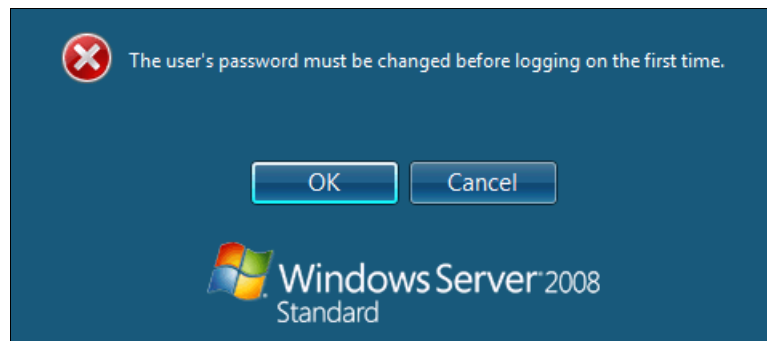

Figure 9-101 Password prompt after installing Windows
16. When Windows is done installing and you are prompted to enter a password (Figure 9-101), click **OK**, and then enter your password.